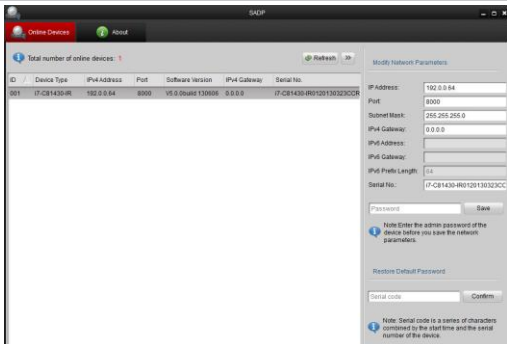

Figure 3-2 Searching Online Devices
- Use SADP, a software tool which can automatically detect network camera in the LAN and list the device information like IP address, subnet mask, port number, device serial number, device version, etc., shown in Figure 3-2.